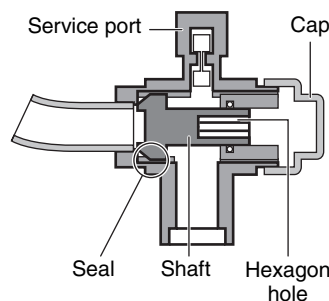

figure 19
#### Opening stop valve (See figure 19)
**Closing stop valve** (See figure 19)